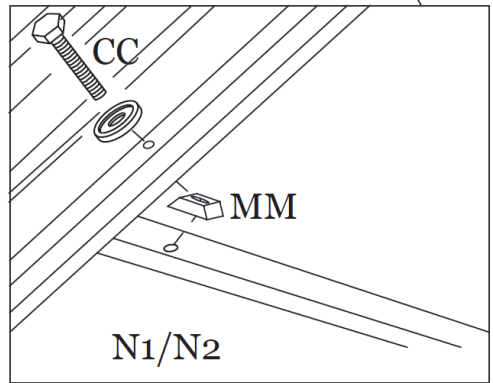

Figure 17-2
Step 17A: Attach Main Roof Panel (X1) to the Support Bar (N1) using Bolts/Washers (CC) and Spacers (MM). See Figure 17-2.